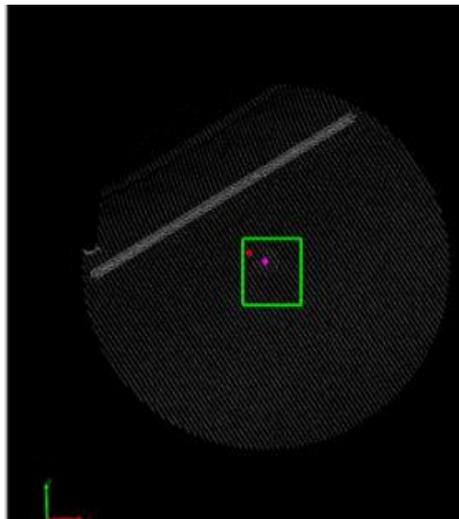

Figure 3-82 Fitting Circular Targets
- Fitting a circular target: based on the selected point cloud, the center of the target is automatically fitted (Figure 3-82).